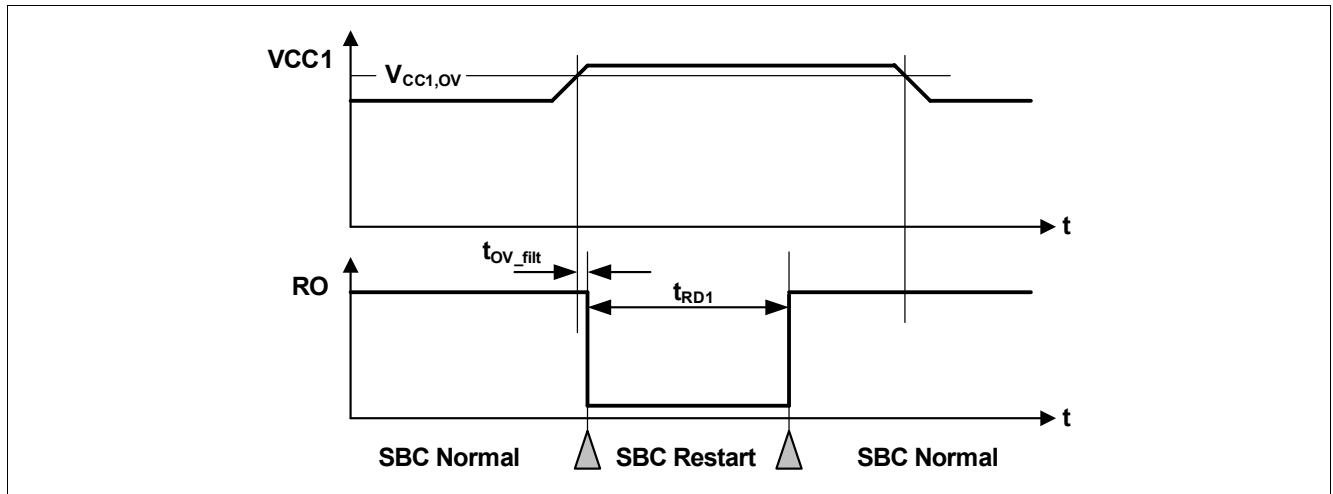

Figure 53 VCC1 Over Voltage Timing Diagram
- If the bit **VCC1_OV_RST** is set and **CFG_P** = '1', then SBC Restart Mode is entered. The FOx outputs are activated. After the reset delay time (t_{RD1}), the SBC Restart Mode is left and SBC Normal Mode is resumed even if the VCC1 over voltage event is still present (see also Figure 53). The **VCC1_OV_RST** bit is cleared automatically;